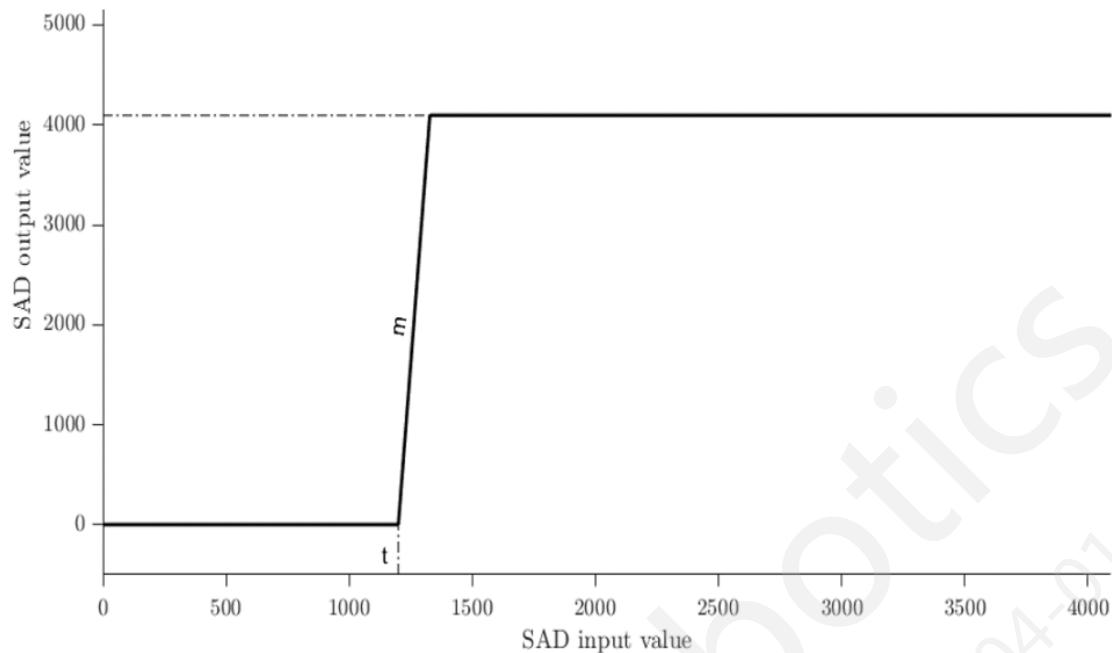

Figure 3.16-9 SAD parameters and curve
These registers define the linear threshold function, depicted in Figure 3.16-9. The SAD input is produced by edge detection. The purpose of this threshold function is to differentiate between edges which produce purple fringing and those which do not.
10. Referring to Figure 3.16-9, adjust Sad_thresh so that all purple fringing areas are white, but other edges (such as the ColorChecker) are as thin as possible. Figure 3.16-10 shows a tuned SAD mask.